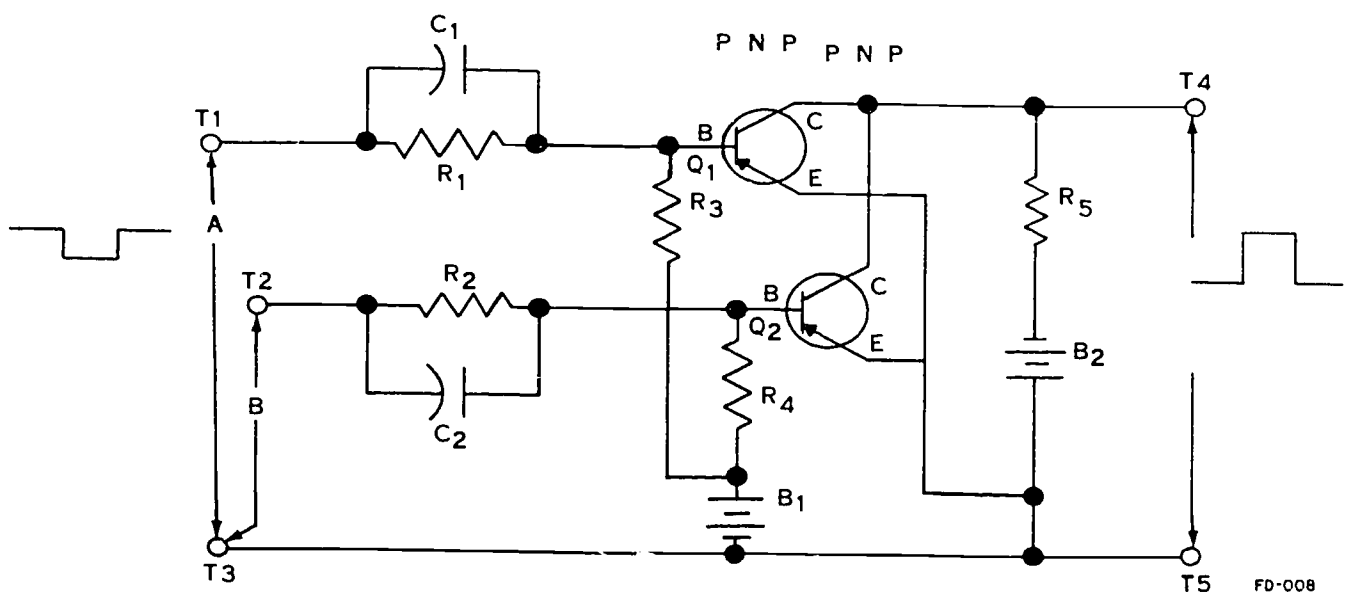

Figure 6-9. Parallel-connected transistor NOR-gate.
Figure 6-9 illustrates a NOR-gate which has parallel-connected transistors. Comparing this latter figure with figure 6-7 reveals the out-of-phase relationship in the output signal. Common-emitter type transistors accomplish this signal inversion. The circuit operation is identical to the operation of the OR-gate circuit which we described previously. Accordingly, Q_2 operates and cuts off Q_1 ; or vice versa, operated Q_1 cuts off Q_2 . Furthermore, a signal must be applied to input A and input B if there is to be
3. Name the actions of the transistors of the circuit in figure 6-9 which provides the output signal.